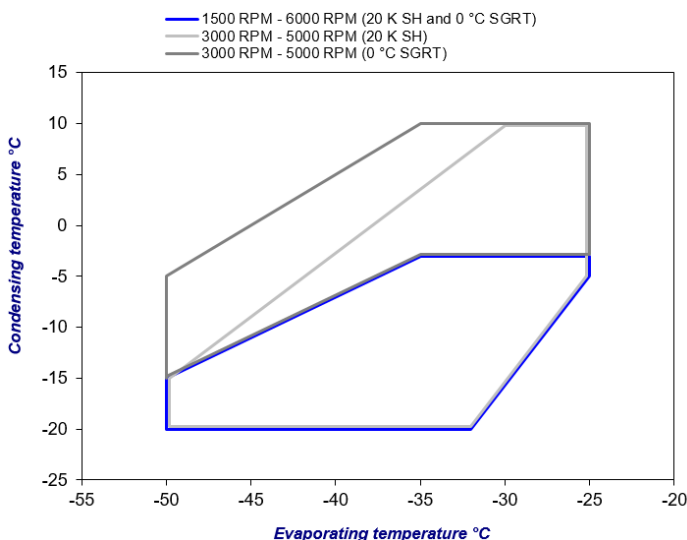

Figure 5: Envelope of the ZOV*AG compressors
- The qualified application envelopes will change with the compressor speed. At all operating conditions the minimum and maximum speed limits according to **Figure 5** have to be respected. With changing operating conditions the speed limits have to be determined by linear interpolation between the limits given in **Figure 5** – also see speed limits animation in Select software available at www.climate.emerson.com/en-gb.